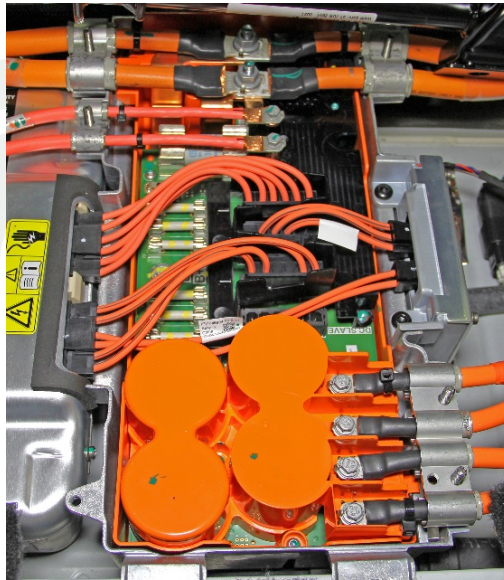

Figure 1
4. Inspect the components inside the HVJB (Figure 1):